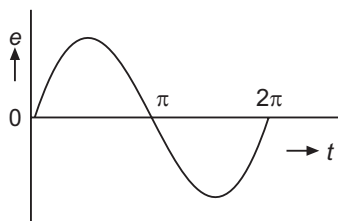

Fig. 3.4 Sinusoidal emf
- 2. Sinusoidal EMF:** The emf induced varies as the sine function of the time angle (ωt) and if emf induced is plotted against time, a curve of sine wave shape is obtained as shown in Fig. 3.4. This is known as the sinusoidal emf.